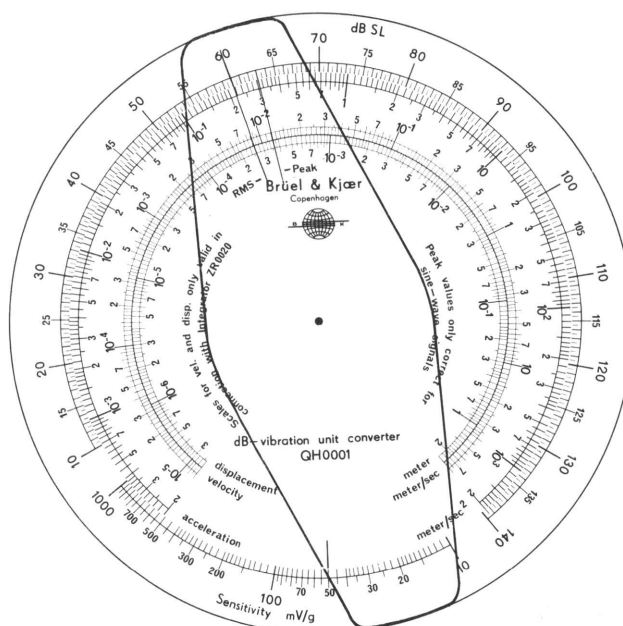

Fig.3.4. Slide Rule QH 0001 set for an accelerometer sensitivity of 50 mV/g and an SPL of 60 dB
The vibration amplitude may only be calculated in the same parameter as that set on the Integrator, and the Slide Rule must not be used to convert from one parameter to another. To determine another parameter, the Integrator must be set and the 2203 calibrated for that parameter and new measurements made. The circular Slide Rule QH 0001 (shown in Fig.3.4) provided with the Integrator should be used to make the calculations as follows:
1. Set the isolated red line on the sliding scale adjacent to the accelerometer sensitivity in mV/g on the outer scale of the Slide Rule. (It is shown adjacent to 50 mV/g in Fig.3.4.)